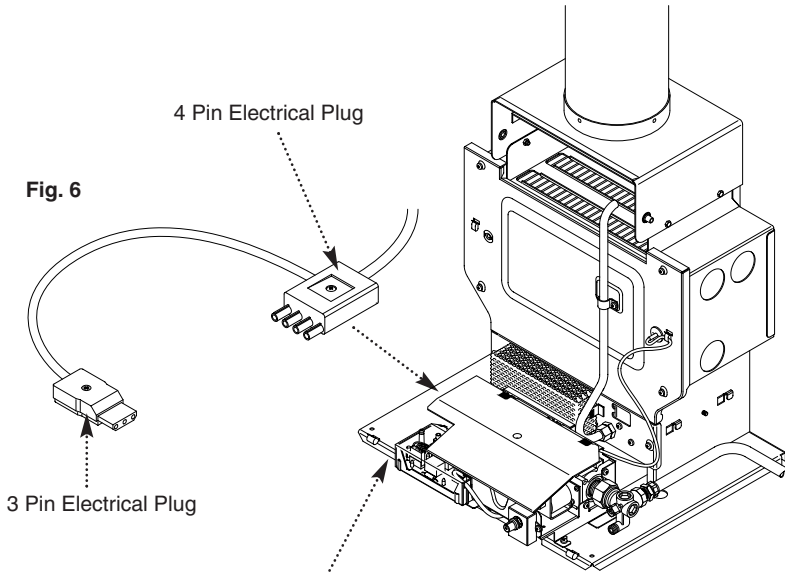

Fig. 6
1. Take the 3 pin plug and lead assembly from the gas fire contents kit (Fig. 6).
2. Remove the 4 pin electrical plug from the boiler (Figs. 6 & 7), remove the cover from the 4 pin plug and undo the cable clamps (Fig. 9).